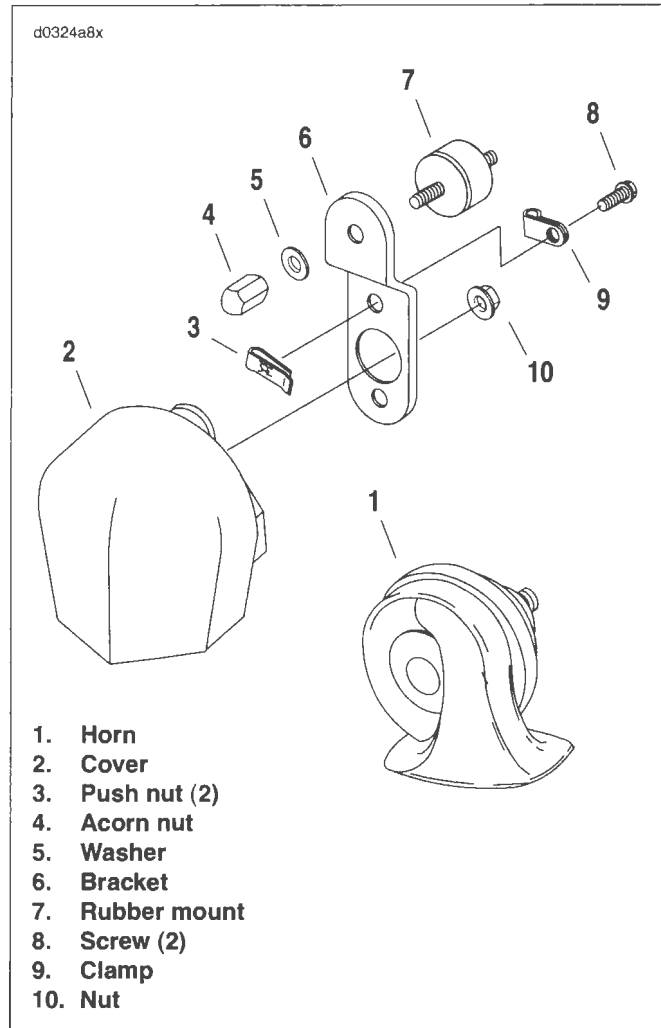

Figure 8-87. Horn
1. See Figure 8-87. Remove nut (4) and washer (5) to detach horn bracket (6) from vehicle.
3. Remove screws (8) and nut (10) to detach horn from bracket. Free wires from clamp (9).
- a. Secure with screws (8), and push nuts (3). Tighten screws to 35-55 **in-lbs** (4.0-6.2 Nm).
- b. Install nut (10) and tighten to 80-100 **in-lbs** (9.0-11.3 Nm). Fold wires under clamp (9).
6. Attach horn bracket to vehicle using washer (5) and nut (4). Tighten nut to 80-100 **in-lbs** (9.0-11.3 Nm). When tightening fasteners, be sure the horn does not contact the horn cover or other parts.